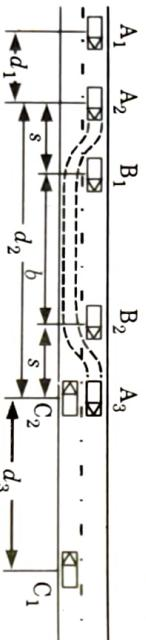

Fig. 2.12.1.
1. Fig. 2.12.1 shows the overtaking manoeuvre of vehicle A traveling at design speed, and another slow vehicle B on a two-lane road with two-way traffic. Third vehicle C comes from the opposite direction.
3. In Fig. 2.12.1, A is the overtaking vehicle originally traveling at design speed v m/sec, or V kmph; B is the overtaken or slow moving vehicle moving with uniform speed v_b m/sec or V_b kmph; C is a vehicle coming from opposite direction at the design speed v m/sec or V kmph.